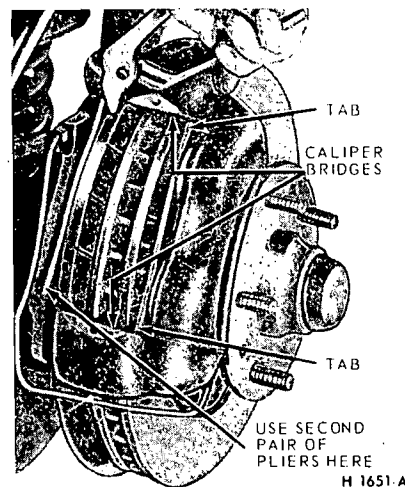

FIG. 25—Removing Disc Brake Shoe and Lining Assembly—Lincoln Continental
4. Grasp the metal flange on the outer end of the shoe with two pairs of pliers and pull the shoe out of the caliper (Fig. 25).
that the tabs on the shoe flanges seat fully against the caliper bridges (Fig. 25).